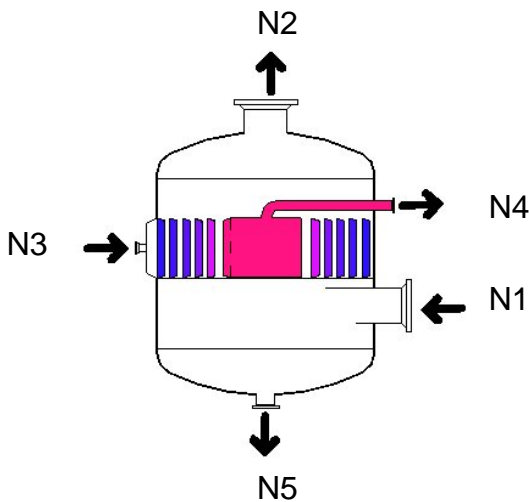

Fig. 2.6: Type B-1a
- Flow arrangements as in depicted in Fig. 2.6, 2.7 and 2.8